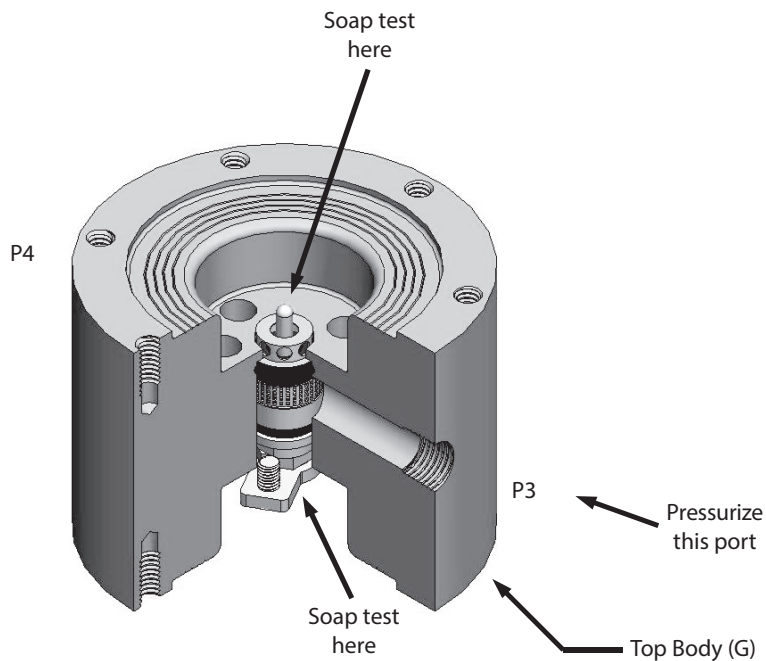
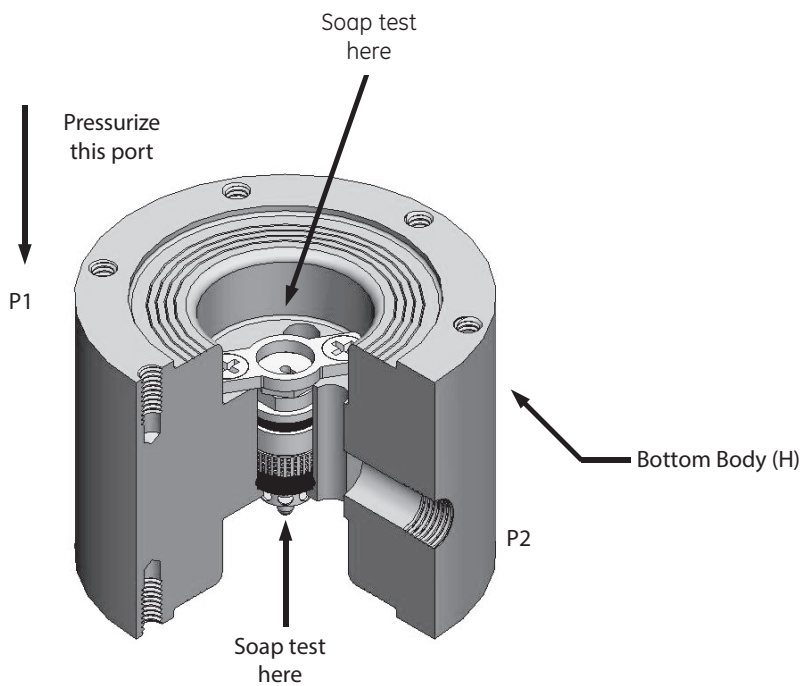

Figure 4
Figure 5
**Step 9:** Apply approximately 100 psig air to the supply ports. For the **Top Body (G)** the port is marked "P3", and for **Bottom Body (H)** the port is marked "P1".
**Step 10:** Apply soap around the valve seat and the back end of the retainer, as shown in Figure 4 and Figure 5.
**Step 11:** If a leak is found, check the o-ring integrity, contamination between the balance valve (D), and the seat (A). Disassemble and repeat steps 1-11. If there are no leaks, move to step 12.